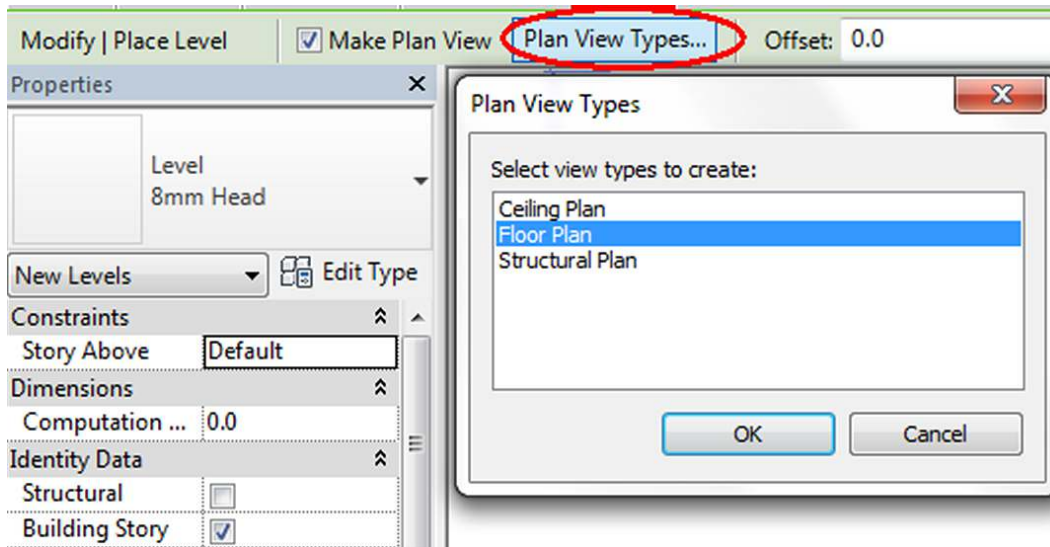

Fig. 1.11 – Selecting Plan View Types for new levels
4. In Type selector, select Level : 8mm Head (Fig. 1.11).
5. On Option bar click Plan View Types → Select Floor Plan (Fig. 1.11).